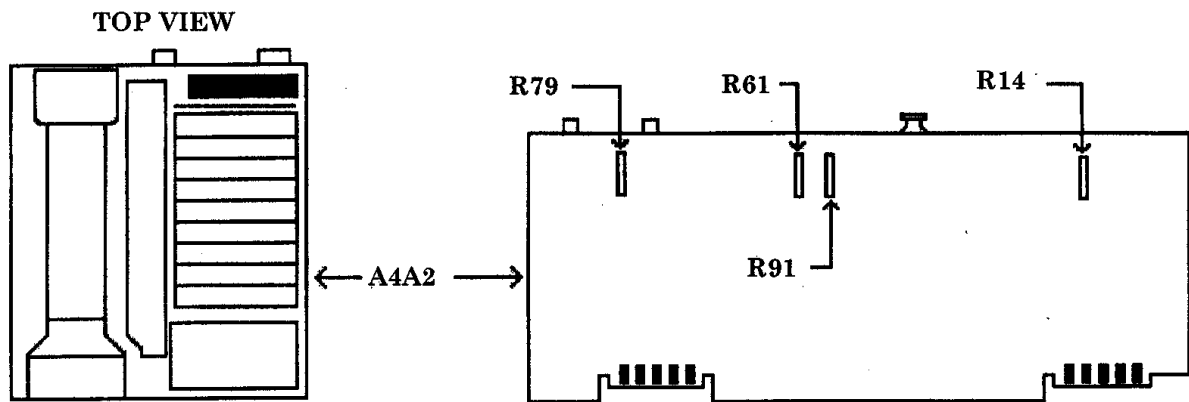
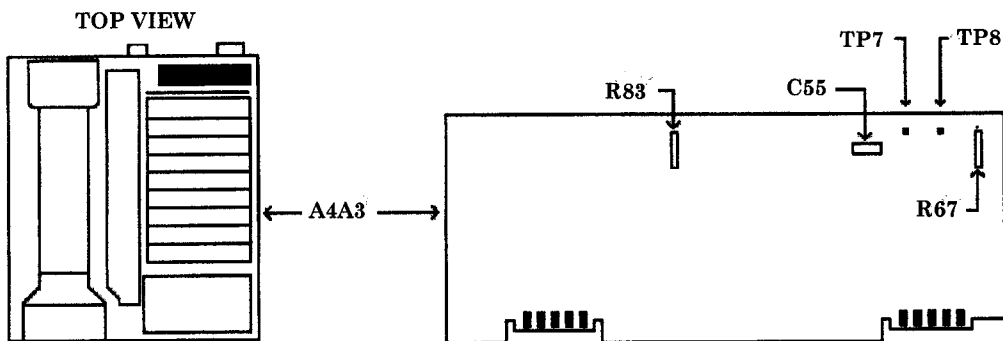

Figure 24. A4A2 board.
Figure 25. A4A3 board.
- (34) Adjust A4A2R79 (fig. 24) for 0.0000 ± 0.0005 V dc
- (35) Press TI **SCALE LOG** key.
- (36) Connect TI **RF INPUT** to synthesizer/level generator **50Ω OUTPUT**.
- (37) Set synthesizer/level generator for an output frequency of 7.6 MHz at an output level of 5 dBm.
- (38) Adjust A4A3C55 (fig. 25) for a maximum multimeter indication.
- (39) Short A4A3TP7 to A4A3TP8 (fig. 25) and record multimeter indication.
- (40) Remove short from between A4A3TP7 and A4A3TP8.
(41) Adjust A4A3R67 (fig. 25) for a multimeter indication the same as that recorded in (39) above ± 0.0005 V dc (R). If TI cannot be adjusted to meet this tolerance then TI must be repaired.
(42) Press TI **SCALE LIN** key.
(43) Adjust synthesizer/level generator output level for a multimeter indication of 1.000 ± 0.002 V dc.
(44) Press TI **SCALE LOG** key.
(45) Decrease synthesizer/level generator output level by 50 dBm.
(46) Adjust A4A2R91 (fig. 24) for a multimeter indication of 0.500 ± 0.001 V dc (R).
(47) Increase synthesizer/level generator output level by 50 dBm.
(48) Adjust A4A2R61 (fig. 24) for a multimeter indication of 1.000 ± 0.001 V dc (R). If TI cannot be adjusted to meet this tolerance then TI must be repaired.
(49) Press TI **SCALE LIN** key.
(50) Multimeter should indicate 1.000 ± 0.020 V dc. If multimeter indication is out of tolerance then TI must be repaired.
(51) Press TI **REFERENCE LEVEL, 0**, and **dBm** keys.
(52) Adjust synthesizer/level generator output level for a multimeter indication of 1.000 ± 0.001 V dc.
(53) Press TI keys as listed in (a) through (c) below:
(54) Decrease synthesizer/level generator output level by 10 dBm.
(55) Adjust A4A3R83 (fig. 25) for a multimeter indication of 1.000 ± 0.010 V dc. If multimeter indication is out of tolerance then TI must be repaired.
(56) Press TI **REFERENCE LEVEL, 70**, and **-dBm** keys.
(57) Decrease synthesizer/level generator output level by 10 dBm.
(58) Adjust A4A2R14 (fig. 24) for a multimeter indication of 1.000 ± 0.010 V dc. If multimeter indication is out of tolerance then TI must be repaired.
(59) Press TI **2-22 GHz** key.
(60) Disconnect synthesizer/level generator **50Ω OUTPUT** from TI **RF INPUT**.
(61) Connect TI **CAL OUTPUT** to TI **RF INPUT**.
(62) Press TI keys as listed in (a) through (g) below: